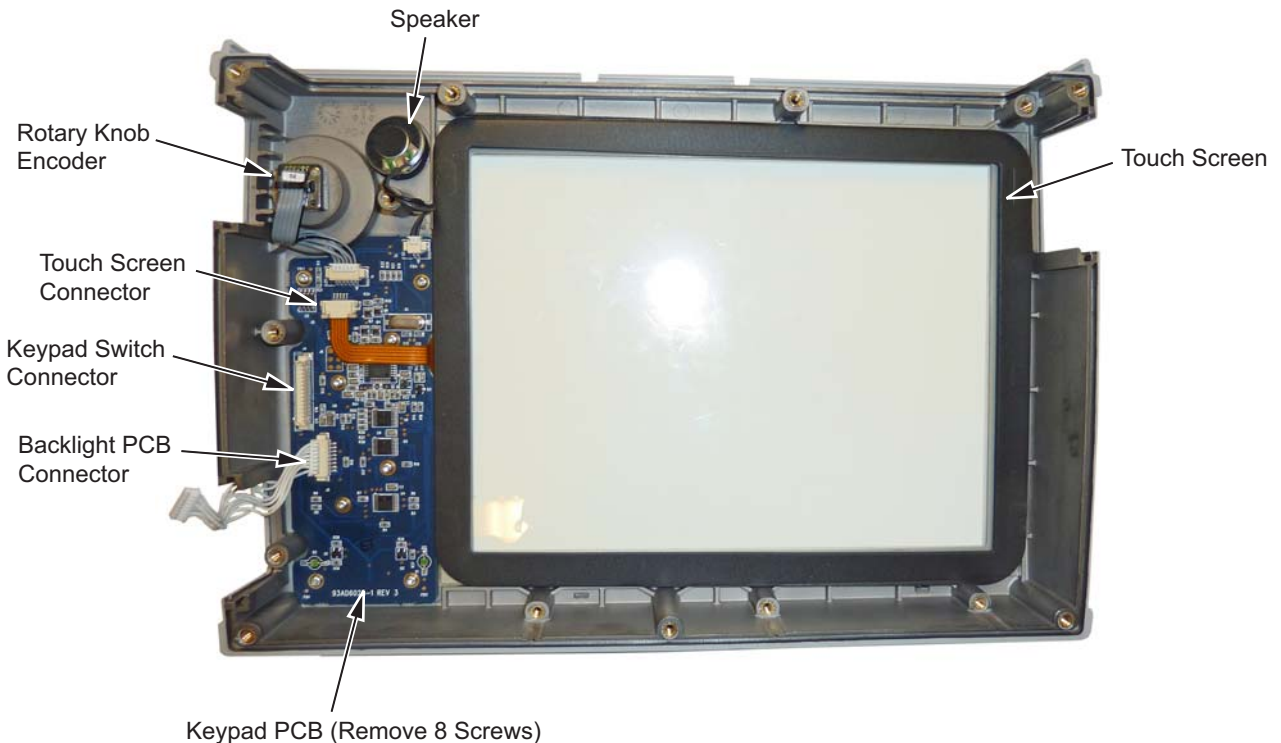

Figure 7-17. Front Panel Keypad Bezel
4. Remove the 8 screws and the cable connectors to remove the Keypad PCB (Figure 7-17). The Rubber Keypad is located under the Keypad PCB.